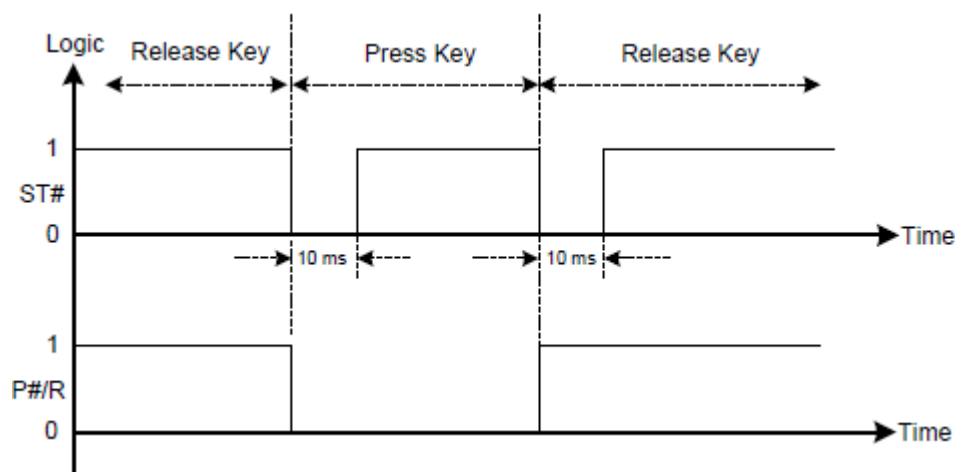

Fig. 3: P#/R and ST# timing diagram
ST# = Strobe pin, indicating the keypress status. It is normally logic HIGH. It sends out a 10mS pulse once the keypress is detected as show on the timing diagram figure 3.
8. **UART Header:** It is 4-PIN 0.1" male connector use for power and sends out keypress data in RS232-TTL (UART). The baud rate is fixed at 9600. TX and RX pins can be connecting directly to the MCU. **DO NOT attaches this module directly to a computer serial port. You will need a RS232 level shifter circuitry. Doing so may damage the module or the computer.** See figure 3 for the pin-out.
- 1) *ST#* change from logic 1 to 0 for 10mS then go back to logic 1 (Figure 3)
- 2) *P#/R* change from logic 1 to 0 and stay at logic 0 (Figure 3)
- 2) *P#/R* change from logic 0 to 1 and stay at logic 1 (Figure 3)